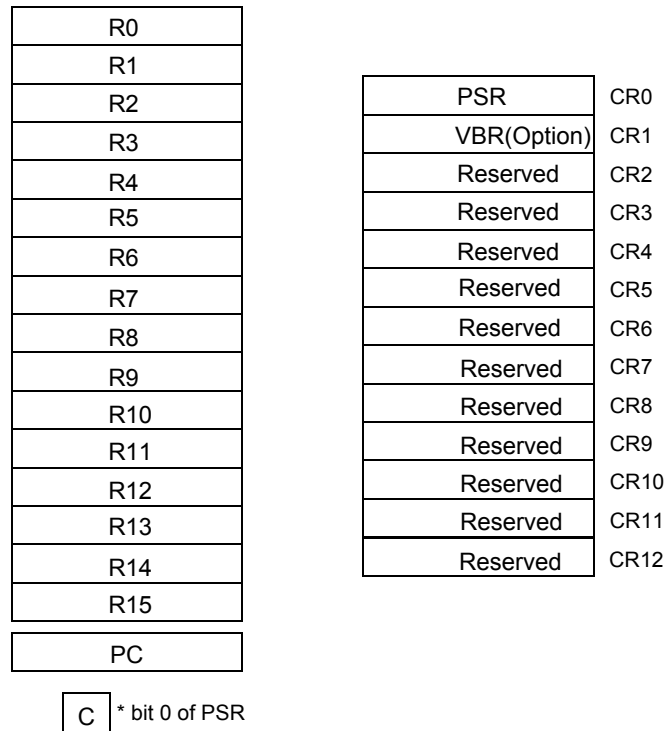

图 4-1 编程模型
The registers depicted in the programming model (see **Figure 4-1**) provide operand storage and control. The user programming model consists of 16 general-purpose 32-bit registers, the 32-bit program counter (PC) and the Condition/Carry (C) bit. The C bit is implemented as bit 0 of the PSR. By convention, register R15 serves as the link register for subroutine calls, and register R0 is typically used as the current stack pointer.